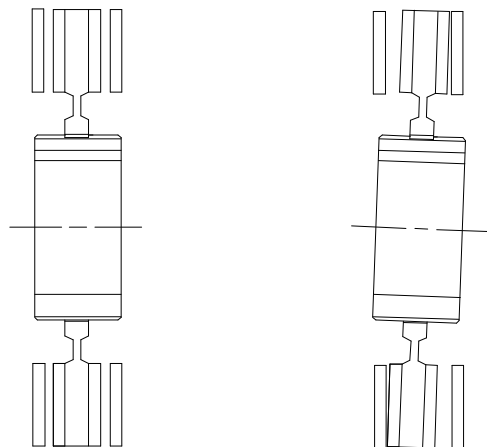

Fig. 2
**Proper alignment is necessary to ensure that the friction discs track properly. Improper alignment will result in excessive wear to the friction material and mating surfaces, plus the gear and splined bore of the friction disc assemblies. See Figure 2.**